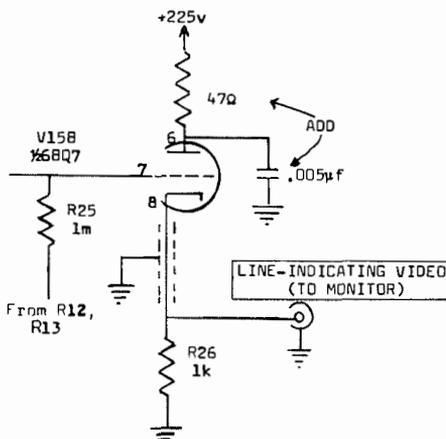

Figure 1. Type 524D/524AD Vertical Amplifier and Delay Line (partial schematic).
1. Decouple the plate of V15B by adding a 47 Ω , $\frac{1}{2}$ w, 10% composition resistor (Tek no. 302-470) and a 0.005 μ f, 500 v discap (Tek no. 283-001) as shown in Figure 1. This prevents the line-indicating video-output circuit from oscillating when V15 is a 6DJ8 and a 52 Ω load is used.